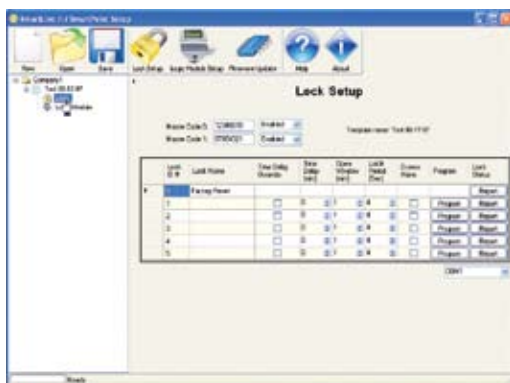

Figure 7
To set up the locks, click on the **Lock Setup** button at the top of the screen or the lock icon on the left side in the tree (Figure 7). A window with the default configuration will appear (Figure 7). In this window select the features to be enabled on the locks.
- If the COM port has been incorrectly set, an error message will appear (Figure 15). Return to the setup window (Figure 7) and reset the COM port to the correct one.